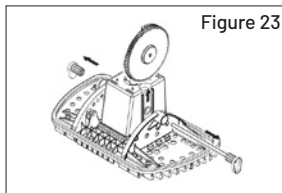

Figure 23
6. Remove the Shaft Plug with the stainless steel shaft and the Large Steering Drive Assembly, (see Figure 23).